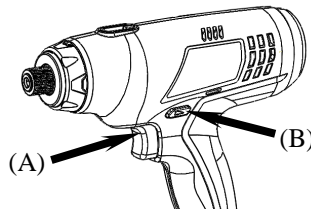

Fig. 7
To select forward rotation, RELEASE THE SWITCH (A) and push the forward/reverse lever (B) toward left side of the tool ◀ (see Fig. 7).
To select reverse rotation, RELEASE THE SWITCH (A) and push the forward/reverse lever (B) toward right side of the tool ▶ (see Fig. 7).